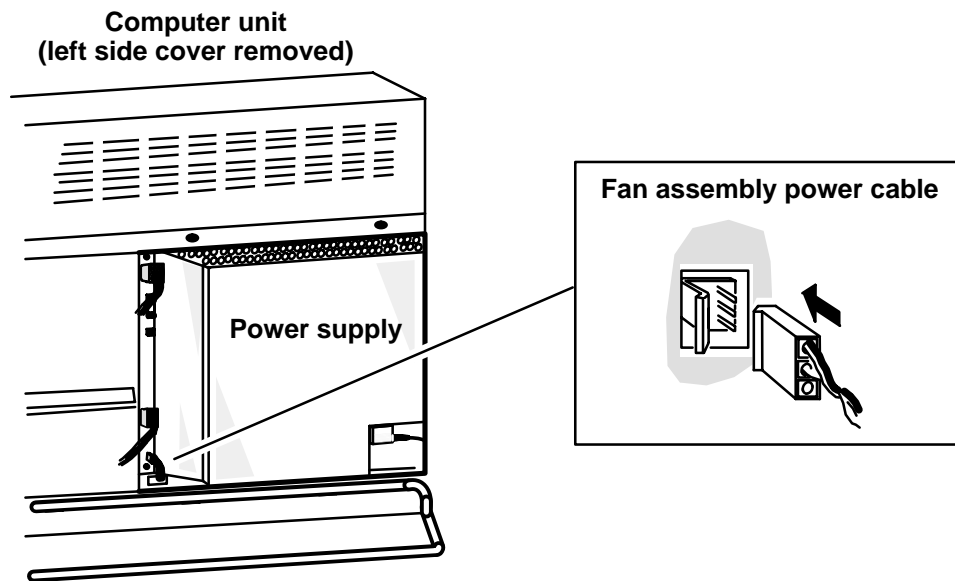

Figure 11-7 Plugging the Fan Assembly Power Cable into the Power Supply
6. Plug the fan assembly power cable into the power supply as shown in Figure 11-7.